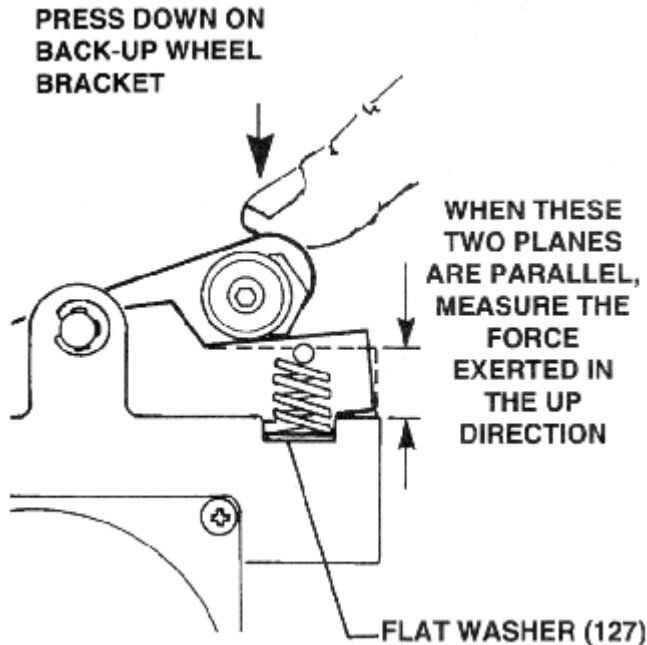

Figure 15 - BACK-UP Wheel Bracket Pressure Adjustment Detail
(Figure 15)
When the two planes indicated in Figure 15 are parallel, the force exerted in the up direction by the spring (136) should measure 10 - 11 lbs. (45 - 49.5N). Adjust the force as needed by adding or removing flat washers (127) beneath the spring.